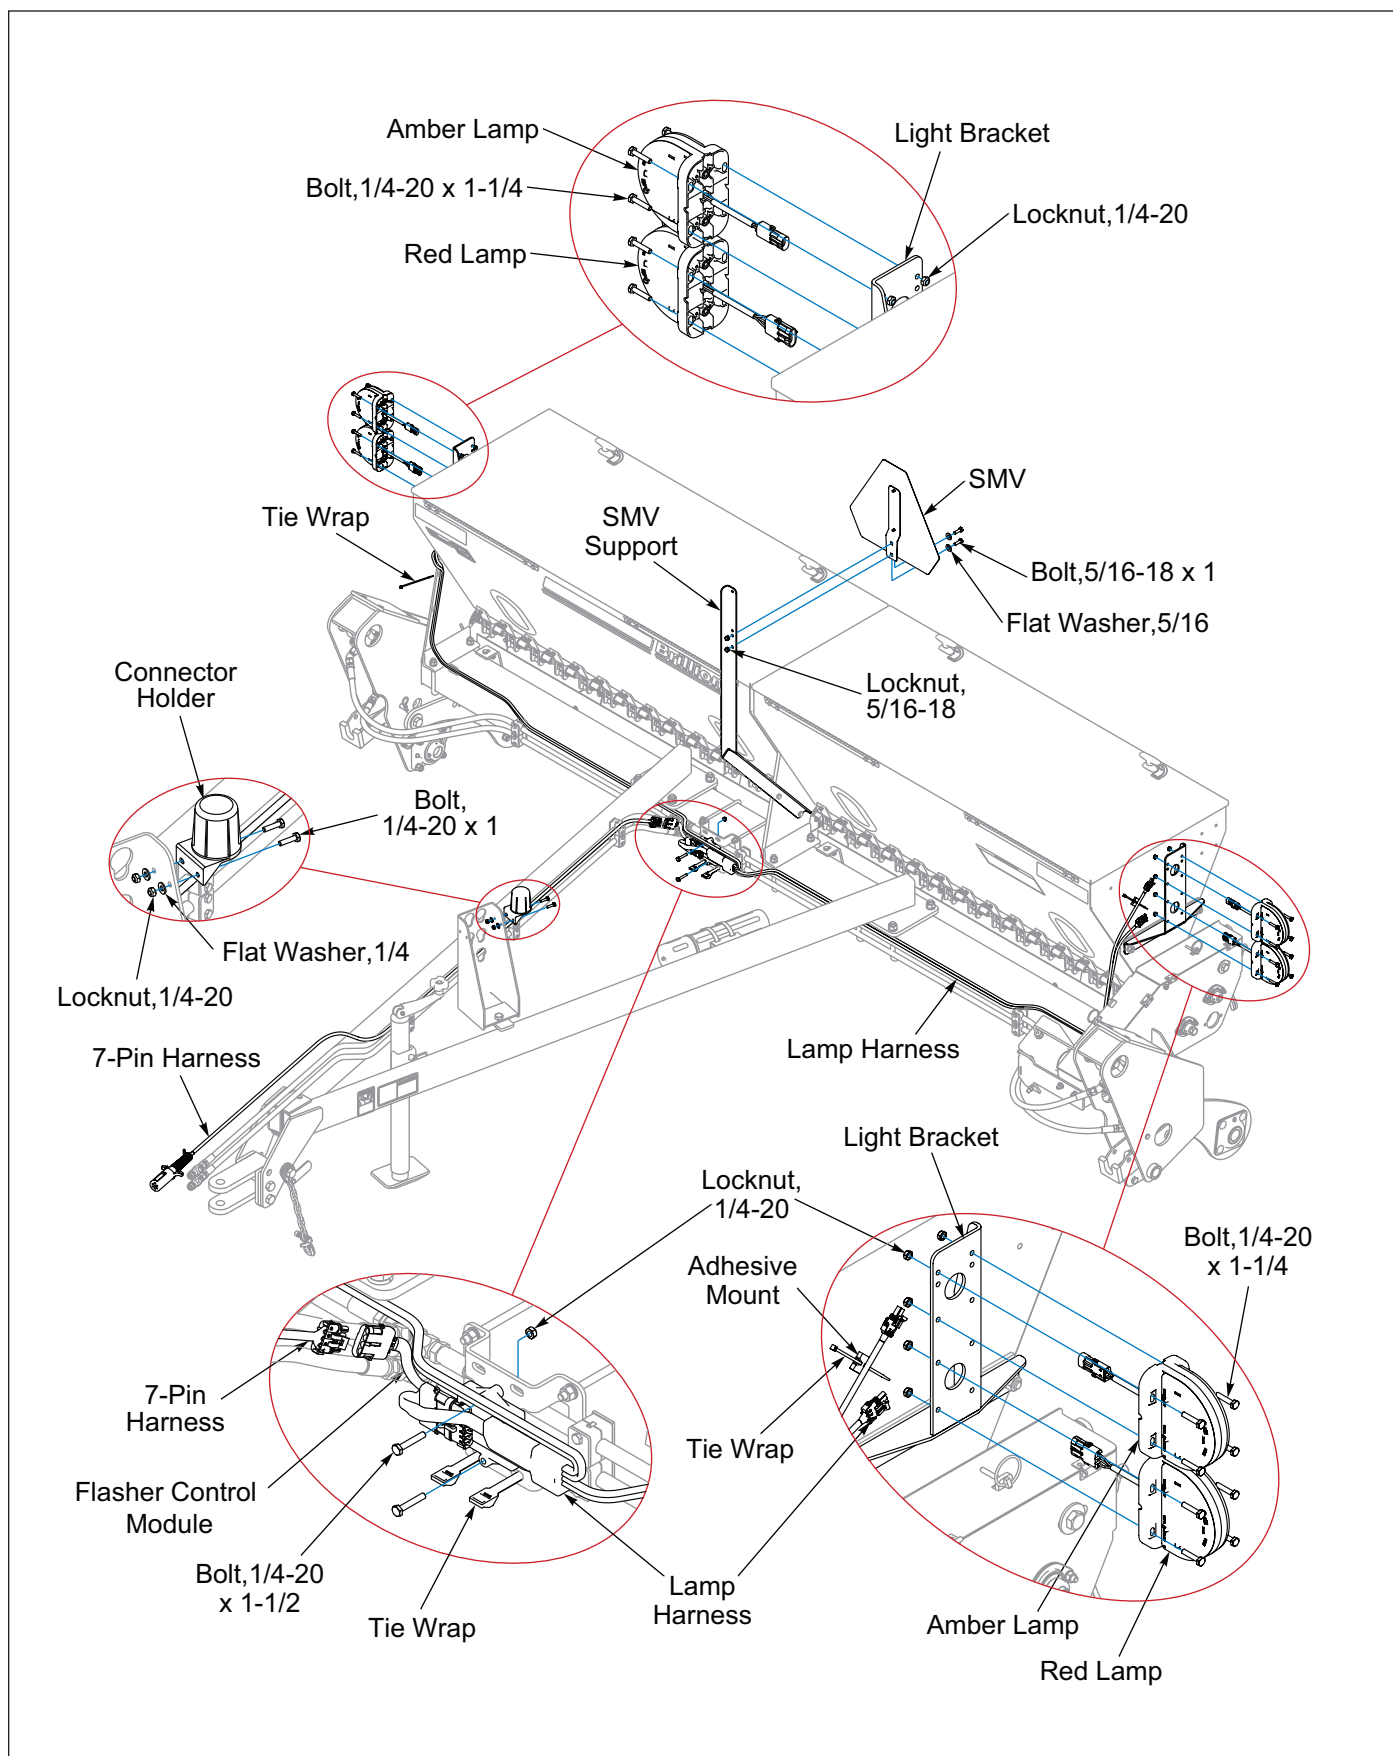

Figure 2-23: Warning Lamp Installation, 8FT and 10FT (Before 06/2026)
1. Attach Amber Lamps to the upper portion of the Light Bracket located at the ends of the Seed Box with 1/4-20 x 1-1/4 Bolts and Locknuts. **See Figure 2-23.**